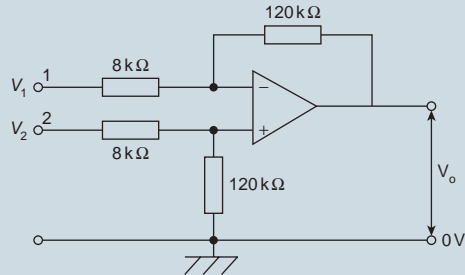

Figure 21.21
5. In the differential amplifier shown in Fig. 21.21, determine the output voltage,